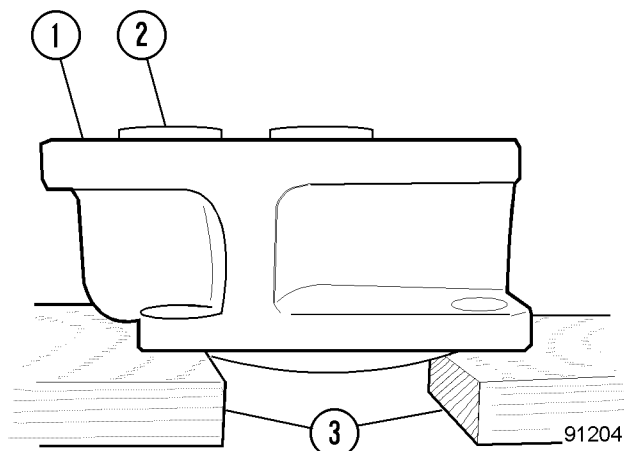

FIGURE 3-7. PREPARATION FOR SEAL REMOVAL
14. Remove outboard shaft seal (2), snap ring (21) and inboard shaft seal (20).
*NOTE: To aid in shaft seal removal place the flange on two small wooden blocks as shown in Figure 3-7.*